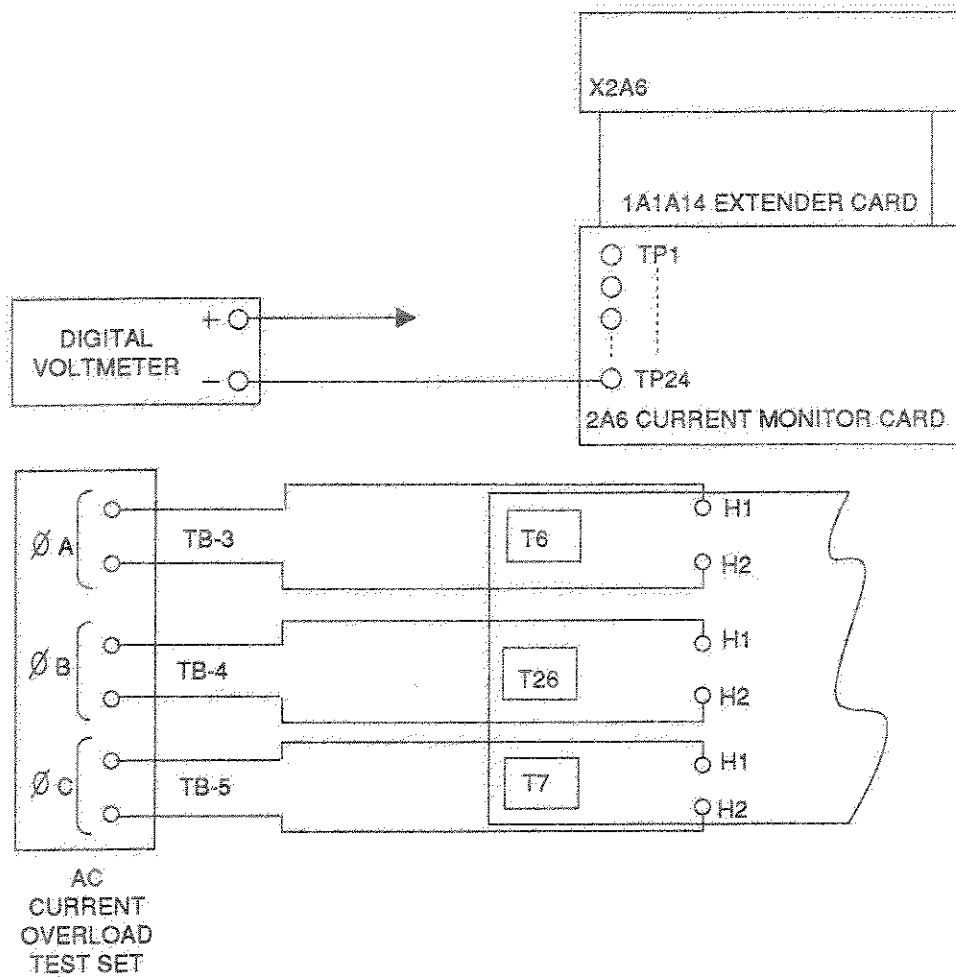

Figure 6-106.4. DRVR AC Current Overload Test.
- 10. From AC Current Test Set connect one end of a phase A lead (W1) to T6H1 using extra 10-32 nuts. See Figure 6-106.4.